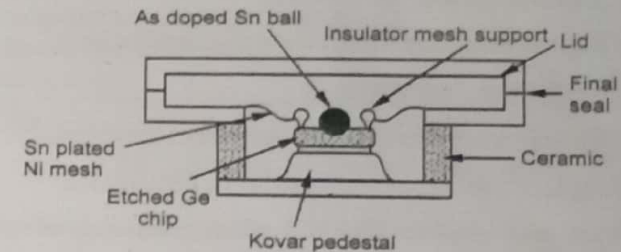

Fig. Q.18.1 Construction of tunnel diode
- The basic construction of an advanced design tunnel diode is shown in the Fig. Q.18.1.